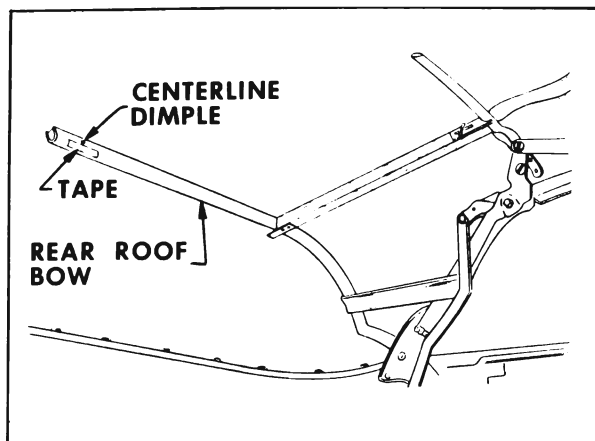

Figure 7-44—Center Line of Rear Roof Bow
24. Along forward surface of rear roof bow install a 1" piece of tape at centerline dimple of rear roof bow. Using a pencil, mark centerline of rear bow on tape (see Figure 7-44).
**NOTE:** The deck seam mark will vary slightly ( $\pm 1/4''$ ) depending upon position of rear roof bow. Also check centerline mark on inner lining of top material. Mark should correspond to centerline mark on rear roof bow (see Figure 7-44).